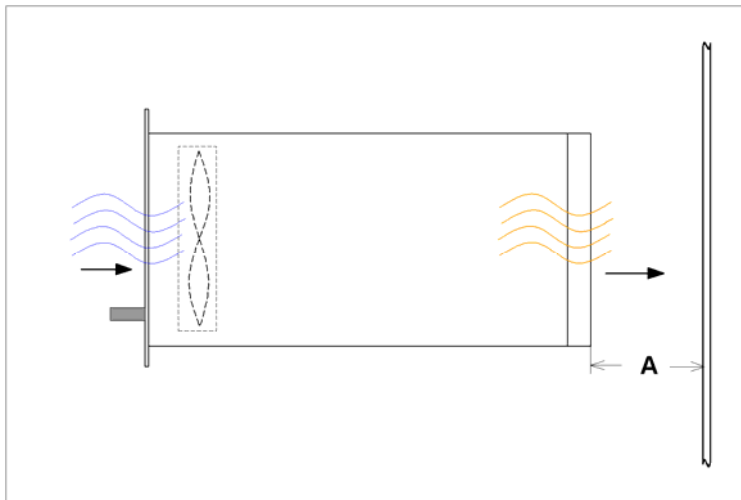

Figure 3) - Rack air flow
The PSR327 (312) units are cooled with internal fans. The airflow is from the front to rear side. The fans are monitored and speed-controlled dependent on module temperature. To provide sufficient air flow, a minimum space (see figure 3, item "A") of 50 mm is required between the backplane of the rack and the rear cabinet wall as well as an unobstructed supply of air to the front of the modules.